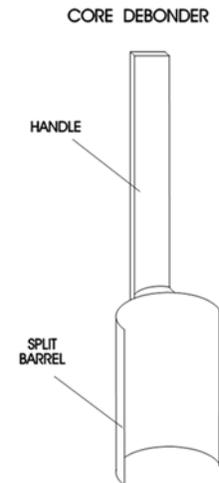

Figure 3
- a) Use a Core Debonder to snap the core loose (Figure 3). Place the debonder in the hole, then sharply tap the side of the handle near the asphalt surface with a heavy hammer or sledge hammer, **but take extreme care to avoid distorting the sample.**